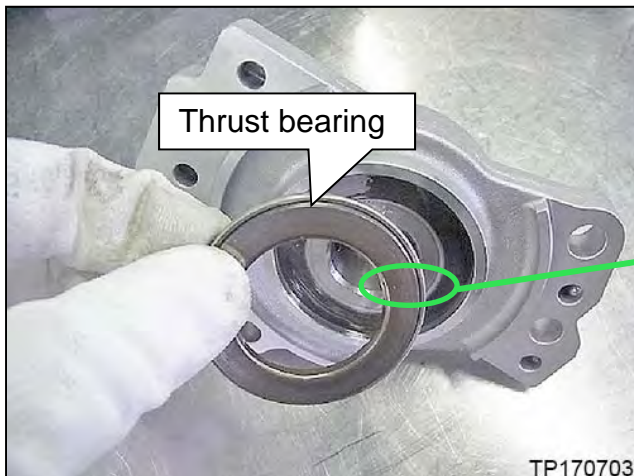
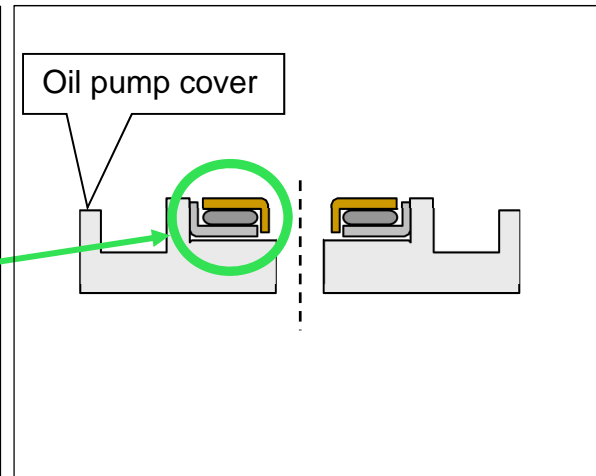

Figure 124
Figure 125
g. Install the original thrust bearing in the correct orientation as shown in Figure 124 and Figure 125.